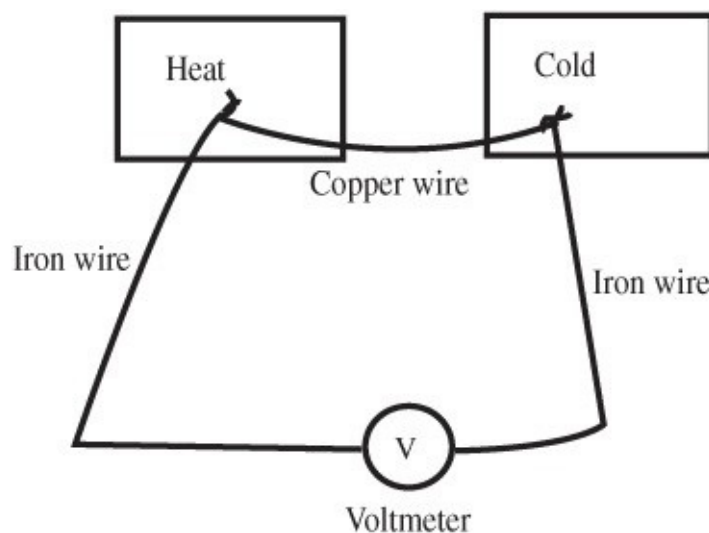

Figure 95-1 *Wiring arrangement for measuring the Seebeck effect.*
3. Connect the two unattached ends of the iron wire to the positive and negative terminals of the voltmeter. See Figure 95-1. Set the voltmeter on the most sensitive setting. The 250 mV (0.250 V) range is a good place to start.